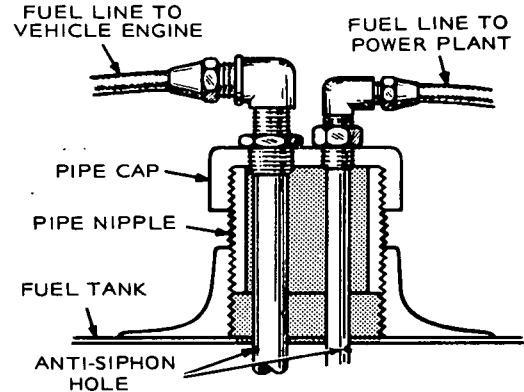

FIGURE 5. INSTALLATION OF SECOND DIP TUBE IN TANK OUTLET
1. Installing a special fitting at the tank outlet so two dip tubes can be fitted into the tank (Figure 5).